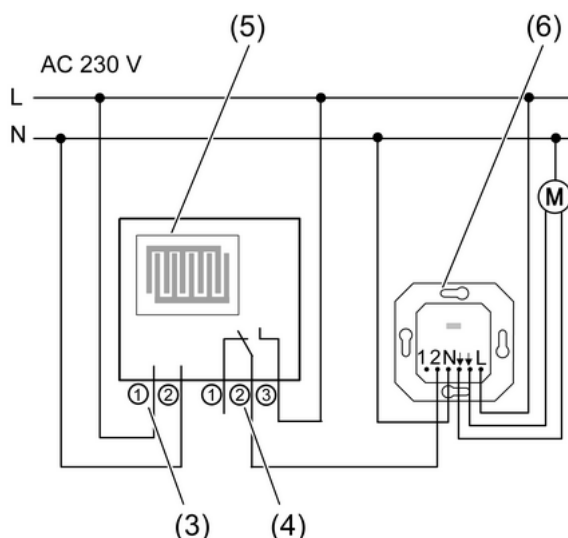

Figure 2: Example for connection of precipitation sensor to blind/shutter controller (6)
- Connect mains cable (3) and control cable (4) of the precipitation sensor (5) as shown in the connection example (Figure 2). Wire 3 of the control cable should be connected to the outer conductor so that no voltage is present on the free wire 1.